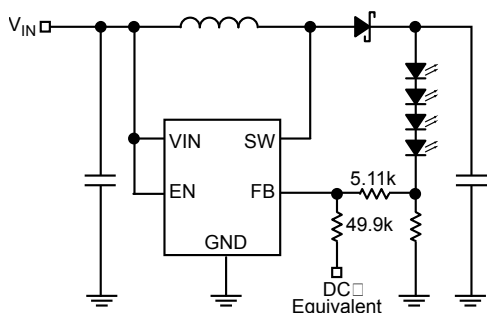

Figure 2. Continuous Dimming
2. Continuous dimming control is implemented by applying a DC control voltage to the FB pin of the MIC3287 through a series resistor, as shown in Figure 2. The LED intensity (current) can be dynamically varied with the applied DC control voltage. The DC voltage can come from a DAC signal, or a filtered PWM signal. The advantage of the filtered PWM signal approach is a high frequency PWM signal (>10kHz) can be used to control LED intensity (current).